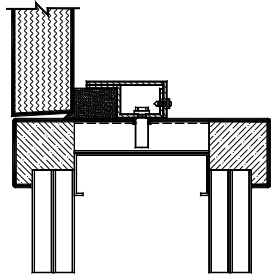

FIGURE 1
C. Installation In New Metal/Wood Stud Walls (Fig. 1 and 2). Remove the steel spreader at the bottom and place the frame between the floor tracks. Using vertical wood braces for alignment and temporary wood spreaders at the top, middle and bottom of the frame for squareness, level and set the frame. Cross string the frame to ensure the jambs are properly set and then anchor to the studs and floor using the wall and floor anchors provided. Double king studs extending to the slab above are recommended and 16 Ga.